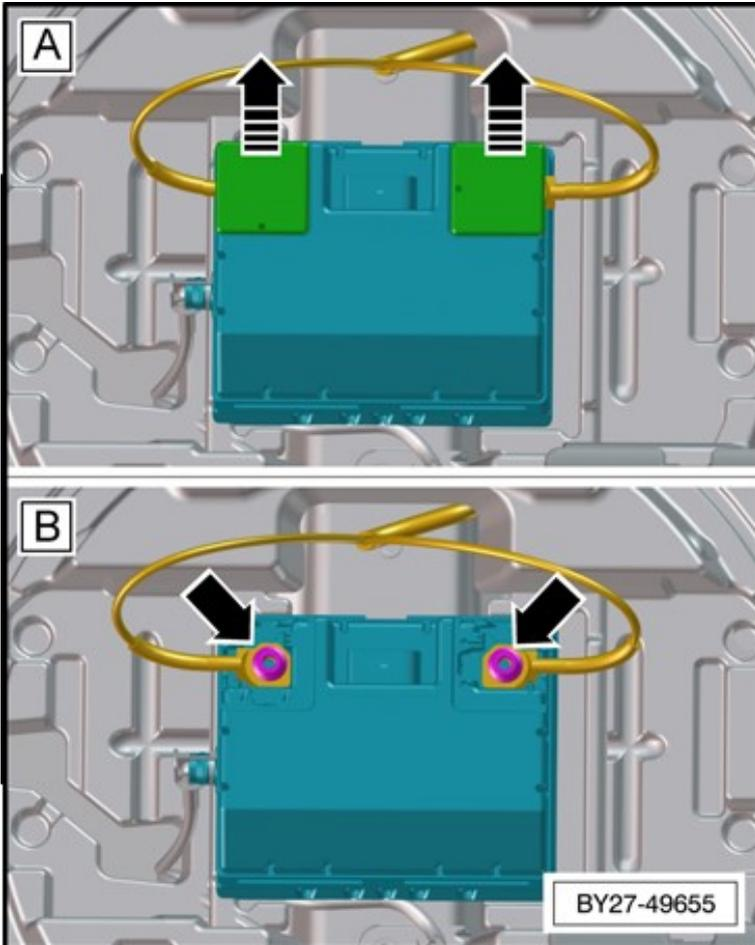

Figure 1
- 2) Referring to Rep.Gr 27 - Check the security of the super capacitor positive and negative terminals (Figure 1) as follows:
- Remove the caps (A) from the terminals
- Check the security of the positive and negative terminals (B) are as described within Rep.Gr 27